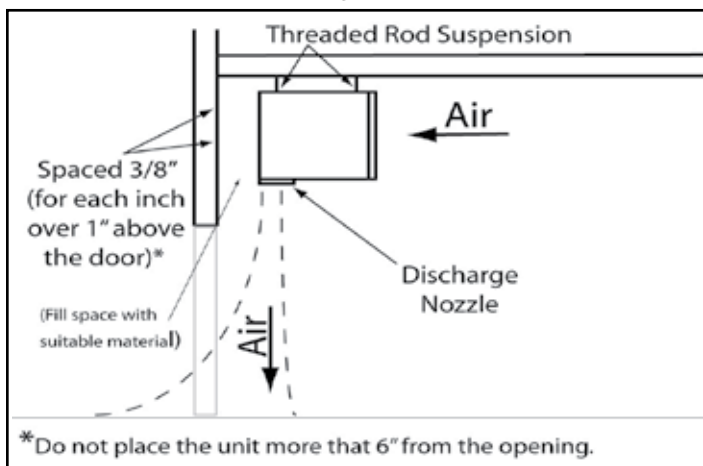

Figure 2
- H. For optimum performance, the bottom of the unit (discharge nozzle) should be no more than 1" above the top of the door opening with the unit mounted flush to the wall. If the unit must be mounted higher, it must be **spaced out** from the wall $\frac{3}{8}$ " **for every inch** the unit is above the door opening. **See Figure 2.**